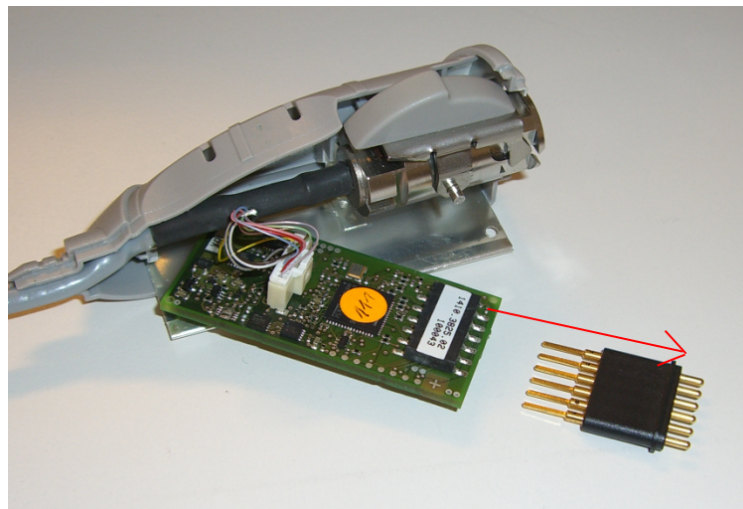

Figure 3-15: Replacing the pogo pin connector
2. Remove the pogo pin connector from the probe board socket as shown in Figure 3-15.